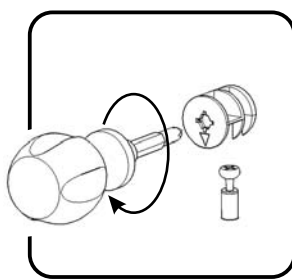

Figure 2
Attach Stretcher (G) to Side Panel (B) with Cam Lock. (See Figure 2)